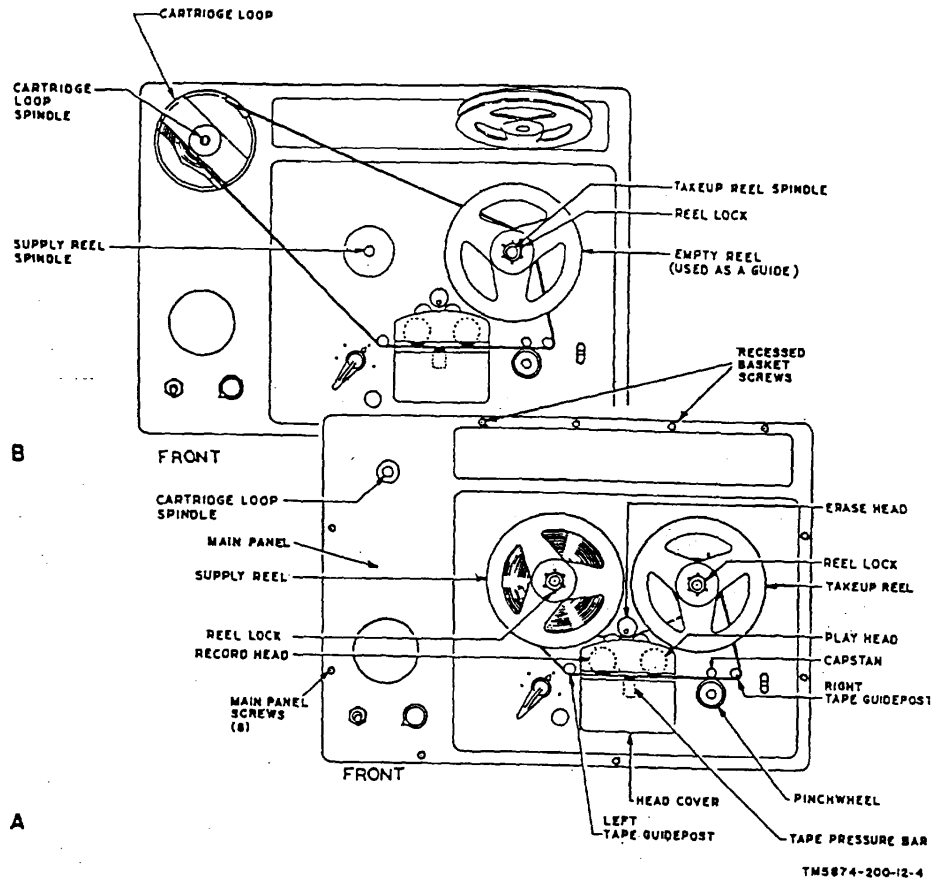

Figure 6. Loading reels.
(fig. 6)
- b. Place the filled supply reel on the left spindle (A, fig. 6) with the tape leading from the bottom of the reel when the reel is rotated counterclockwise.
- b. Place the cartridge loop (B, fig. 6) over the cartridge loop spindle with the loose tape loop toward the head cover. The payoff side of the cartridge loop tape will be toward the front of the recorder.
- b. Remove the tape from the head cover slot (A, fig. 6) and left and right tape guide posts.